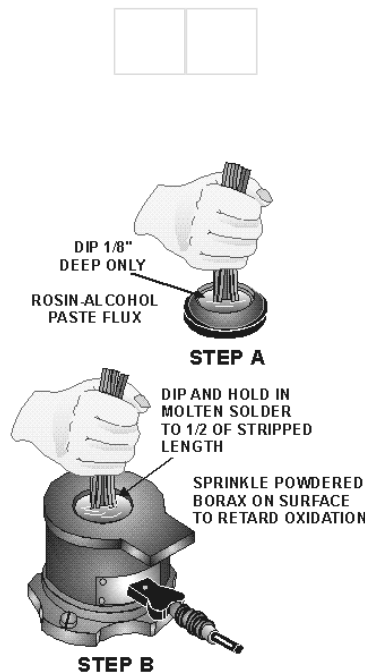

Figure 2-25.—Dip-tinning In a solder pot.
Copper wires are usually tinned by dipping them into flux (view A of figure 2-25) and then into a solder bath (pot) (view B of the figure). In the field, copper wires can be tinned with a soldering iron and rosin-core solder. Tin the conductor for about half its exposed length. Tinning or solder on the wire above the barrel causes the wire to be stiff at the point where flexing takes place. This will result in the wire breaking.
3. Grasp the wire firmly and dip it into the prepared flux to a depth of about 1/8 inch (see view A of figure 2-25).
5. Immediately dip the wire into molten solder. Dip only half of the stripped conductor length into the solder (see view B of figure 2-25).